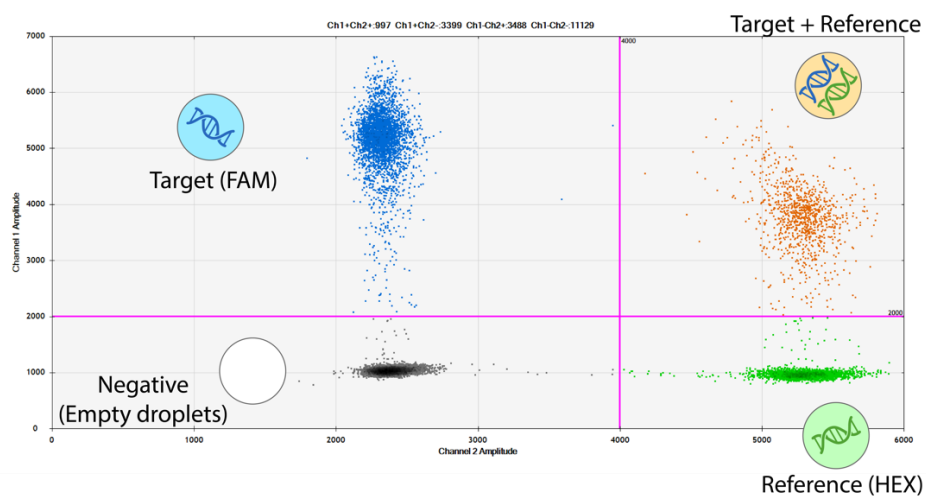

Figure 15. ddPCR 2-D plot [3,11]
- Make sure the positive droplets (blue/green) are separated from the negative droplets (grey) (Figure 15-Figure 16)